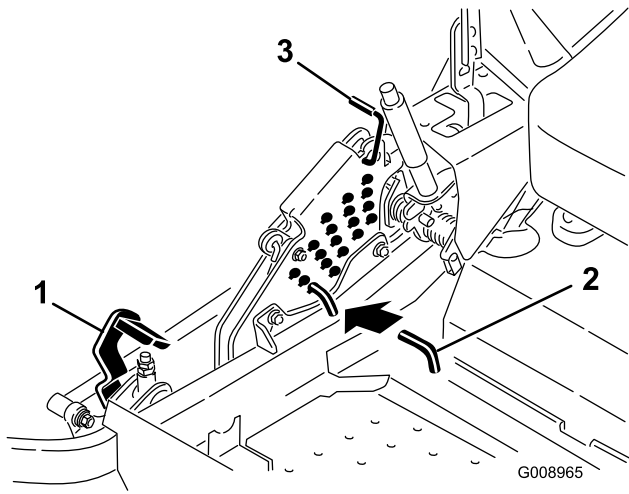

Figure 24
2. Push on the deck-lift pedal with your foot, and raise the mower deck to the transport position (also the 140 mm (5-1/2 inches) height-of-cut position) as shown in Figure 24.
3. To adjust, rotate the pin 90 degrees and remove the pin from the height-of-cut bracket (Figure 24).
4. Select a hole in the height-of-cut bracket corresponding to the height-of-cut desired, and insert the pin (Figure 24).